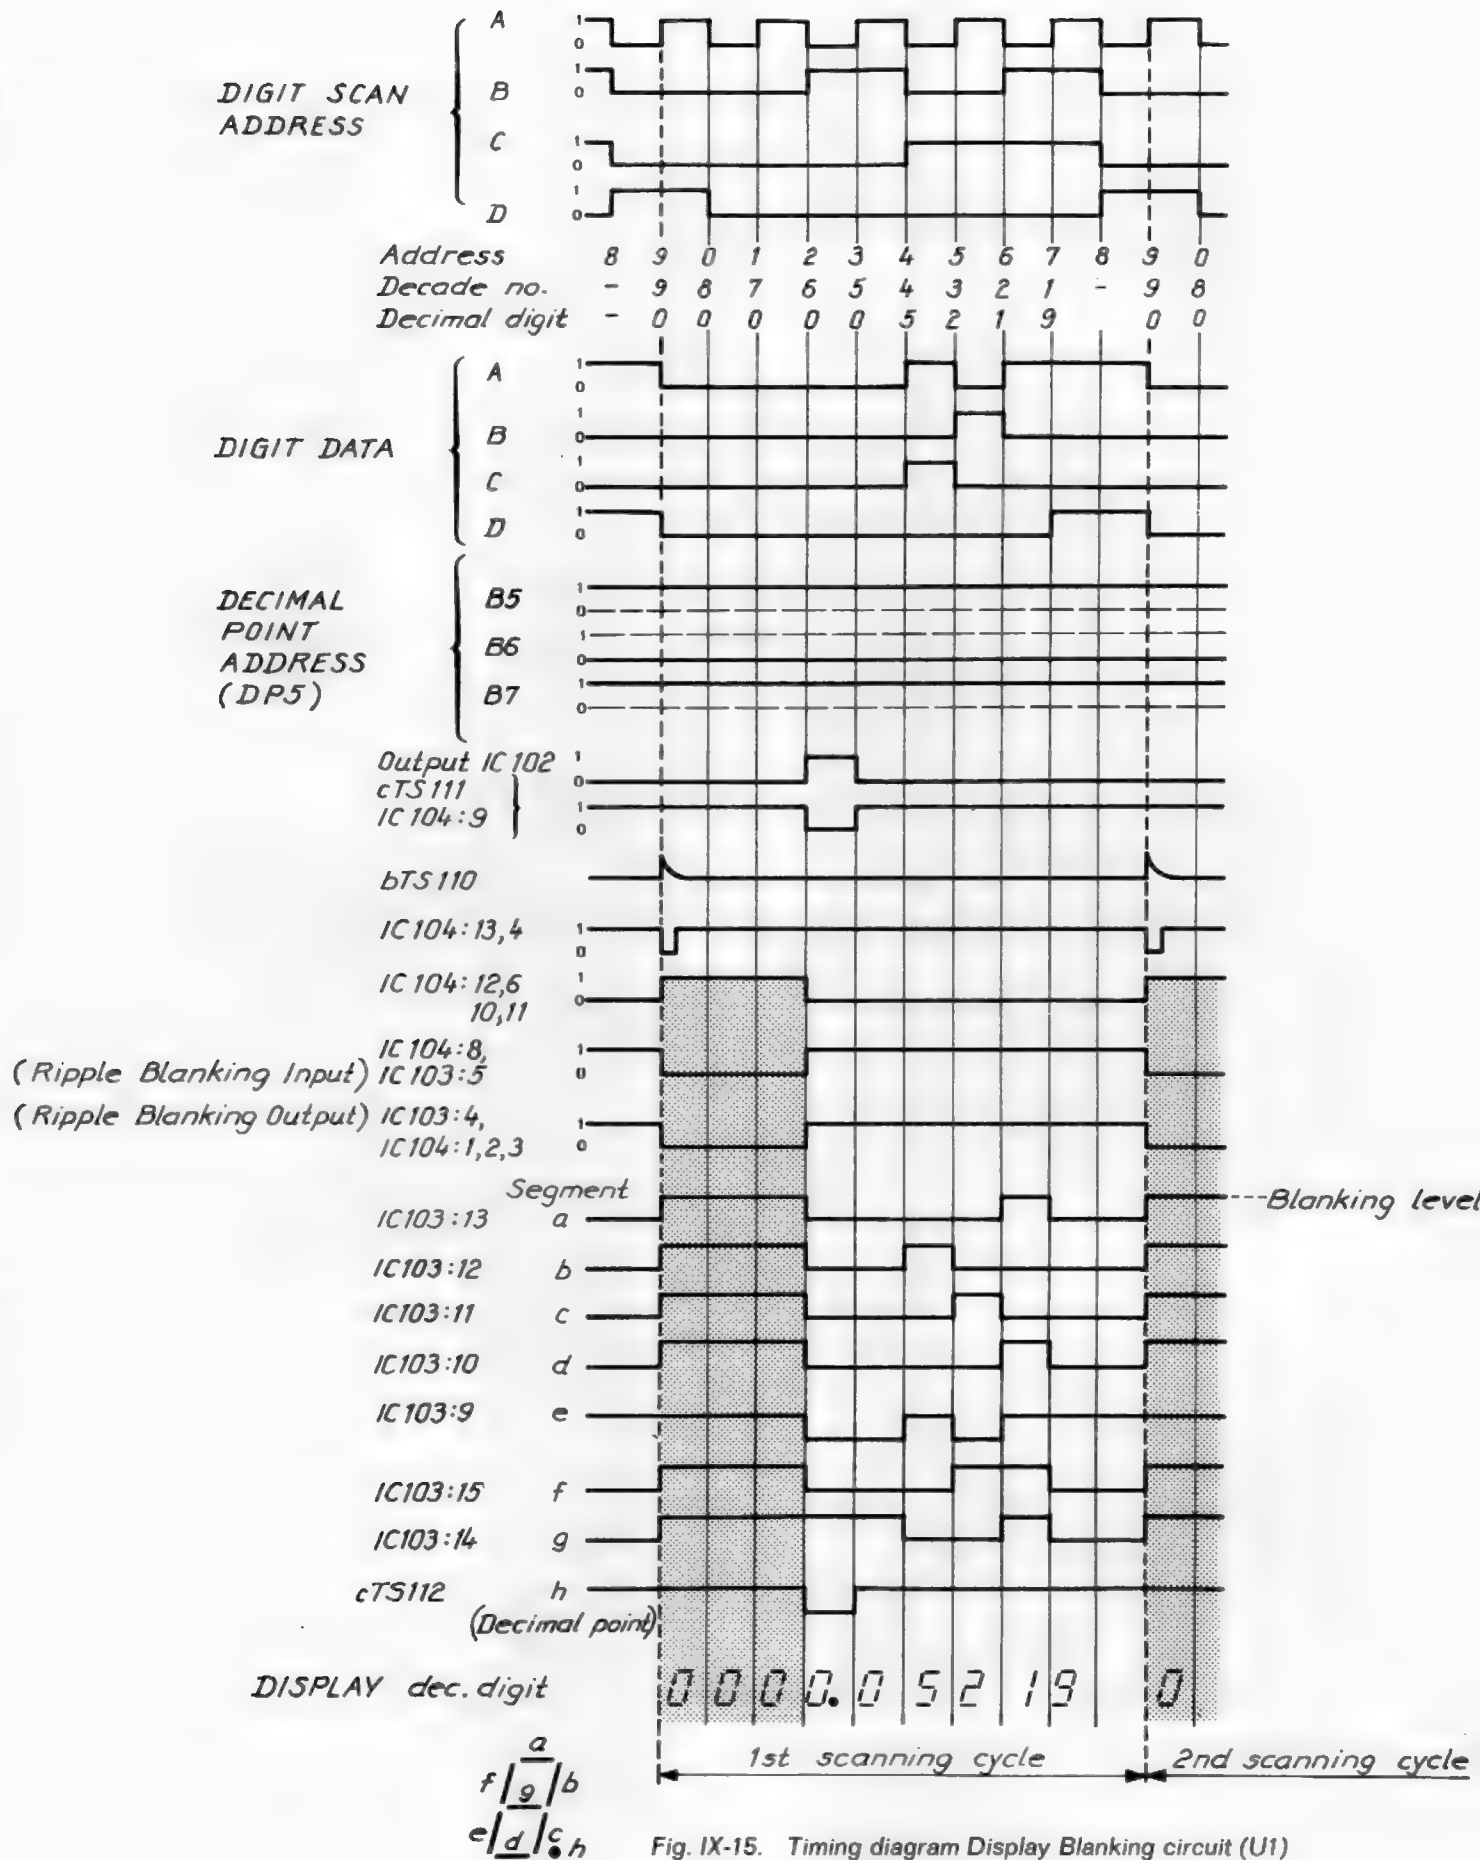

Fig. IX-15. Timing diagram Display Blanking circuit (U1)
*Refer to circuit diagram U1, fig. XIV-2, and timing diagram, fig. IX-15.*
Lines D and A of the Digit Scan Address information are applied to AND gate configuration GR 105 and GR 106. At decimal "9" the Digit Scan Address is 1001 which is closing the diodes of the AND gate. A positive pulse occurs at the base of TS 110, which provides a negative pulse (LOW) to inputs 13 and 4 of triple NAND gate IC 104, which is arranged as a bistable latch flip-flop. Outputs 12 and 6 go HIGH and are fed further to inputs 10 and 11 of the third NAND gate. Since input 9 is also HIGH (TS 111 off), output 8 goes LOW. This signal is applied to the Ripple Blanking Input (RBI) IC 103:5. Provided that the first digit now is 0 (as indicated in the timing diagram fig. IX-15 where we assume a display of 0000.05219) the Ripple Blanking Output (RBO) IC 103:4 will provide a LOW level to inputs 1, 2 and 3 of IC 104. The gate outputs 12 and 6 will maintain their HIGH states although inputs 13 and 4 are HIGH because the pulse at the base of TS 110 has disappeared. When the next digit data appears, in this case also a "0", the state of IC 104 will not be changed which means that the Ripple Blanking Input is still LOW. Outputs 9 through 14 of the decoder/driver IC 103 now have a high level so that all segments of the display are blanked.